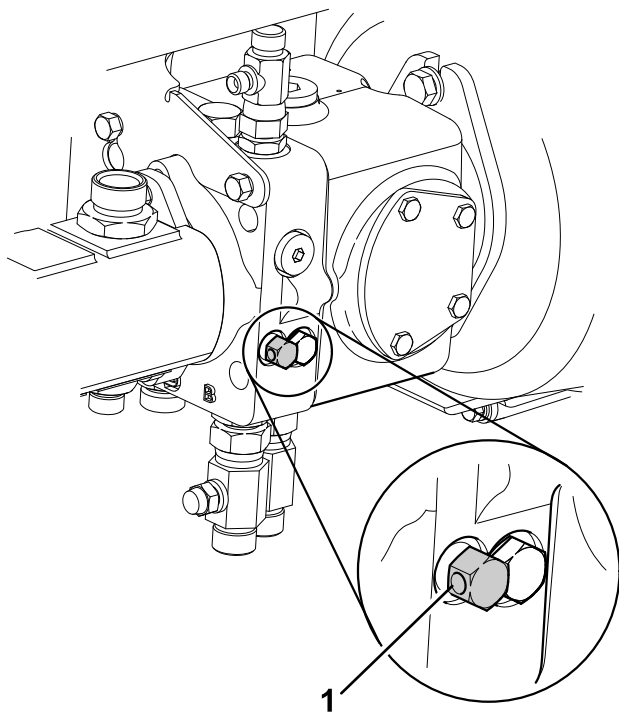

Figure 53
7. Decommission the hydraulic service braking system by turning the bypass valve, located under the transmission pump, counterclockwise, a maximum of 3 turns (Figure 53).